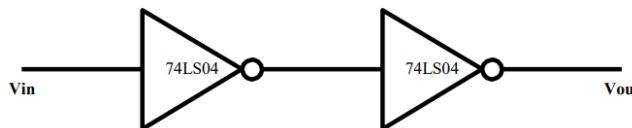

Fig. 7: Circuit diagram for measuring delay time
- (1) Use the functional generator to generate a square wave of 1kHz and $V_{p-p}=5V$.
- (2) Observe the input and output waveforms of the circuit shown in Fig. 7 on the oscilloscope and calculate the propagation delay.
- (3) Draw the waveform in your lab report.